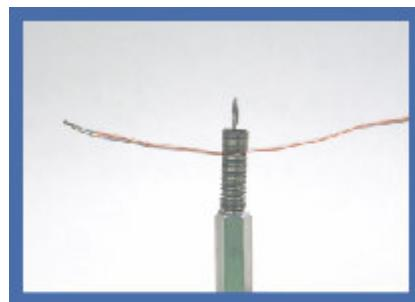

Figure 10. Thermocouple tip between spring coils
3. When measuring air temperature, fasten the thermocouple tip between spring coils, as shown in Figure 10. This is most easily done by bending or pulling the spring to increase the gap between the coils. Once opened, press the thermocouple wire into the space between the spring coils. Release the spring to pinch the thermocouple tip in place.